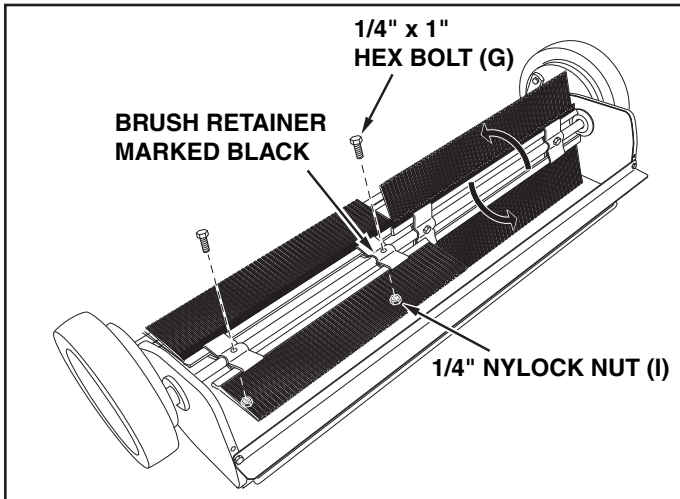

FIGURE 3
STEP 3: (SEE FIGURE 3)
- Attach the brush assembly with the black brush retainer to the left end of the brush shaft using two 1/4" x 1" hex bolts (G) and 1/4" nylock nuts (I). The brush retainer marked with black ink must be placed to the **middle** of the sweeper.